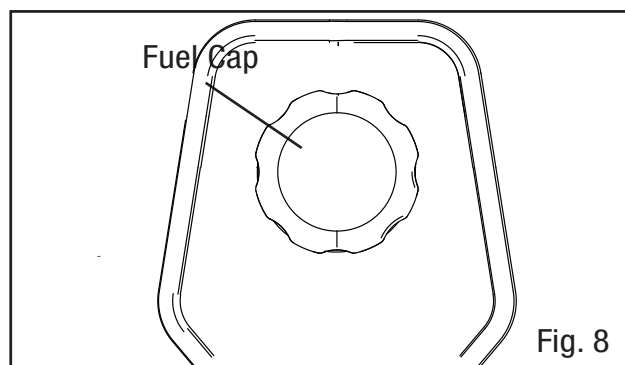

Fig. 8
1. Make sure the generator is shut OFF and on a level surface. Unscrew the fuel cap (Fig. 8) and set it aside. The fuel cap may be tight and hard to unscrew.